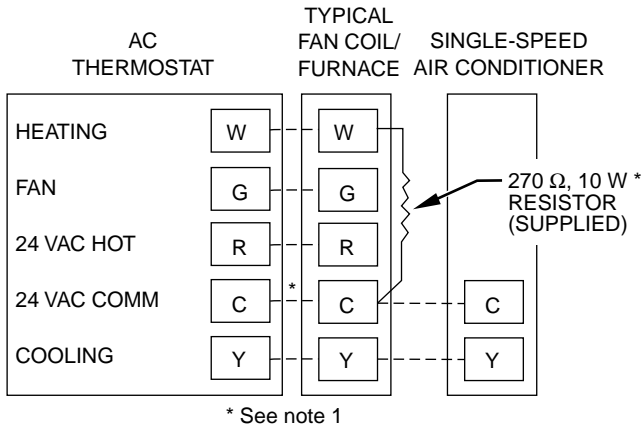

Fig. 2—Typical Air Conditioner
10. If "power stealing" connection is used, be sure to attach 270 ohm resistor at indoor unit. (See Fig. 2 and 3, and note 1.)